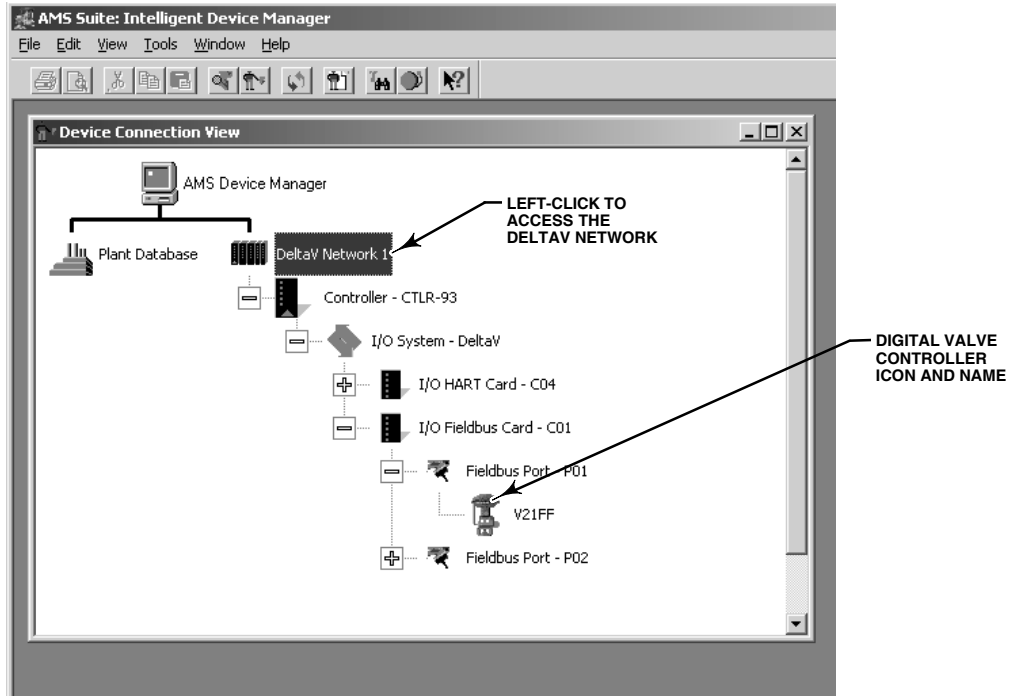

Figure F-2. Accessing the Digital Valve Controller Through AMS Device Manager
4. Navigate to the digital valve controller icon or name as shown in figure F-2 and left-click.
For detailed information on the parameters that are changed via the transducer block, refer to the Detailed Setup section of this manual. Refer to figures F-2, F-3, and F-4 for information on accessing transducer block parameters.
For detailed information on the parameters that are changed via the resource block, refer to the Detailed Setup section of this manual. Refer to figures F-2, F-3, and F-4 for information on accessing resource block parameters.